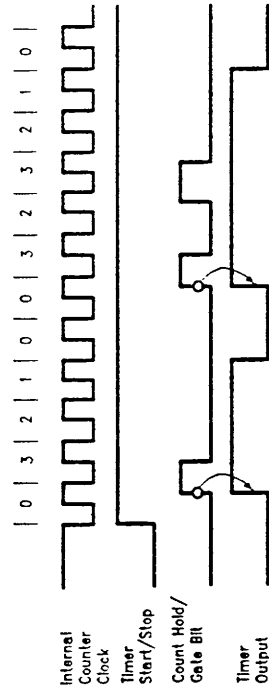

FIGURE 11. Timing Waveforms for Timer Mode 3, Output Programmed Active High
This mode is different from the previous three modes in that this is the only mode which uses the external gate to trigger the output. Once the timer Start/Stop bit is set the output stays inactive, and nothing happens until a positive transition is received on the G1 or G0 pins, or the Count Hold/Gate (CHG) bit is set in the timer control register. When a transition occurs the one shot output is set active immediately. The counter is loaded with the value in the input register on the next transition of the input clock and the countdown begins. If a retrigger occurs, regardless of the current count value, the counters will be reloaded with the value in the input register and the counter will be restarted without changing the output state. See Figure 11. A trigger count can occur at any time during the count cycle and can be a hardware or software signal (G0, G1 or CHG). In this mode the timer will output a single pulse whose width is determined by the value in the input data register (N) and the input clock period.